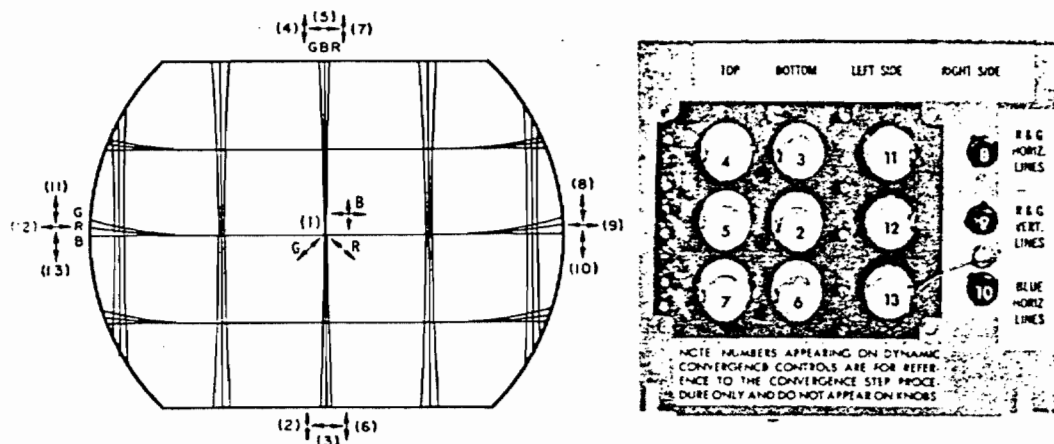

Figure 28
1. Converge pattern at center of screen by adjusting the blue lateral magnet and sliding the permanent magnet adjusting sleeves in or out. If range is inadequate, remove sleeve, rotate 180° and reinsert. See Fig. 28.